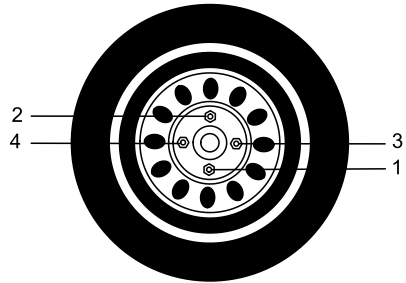
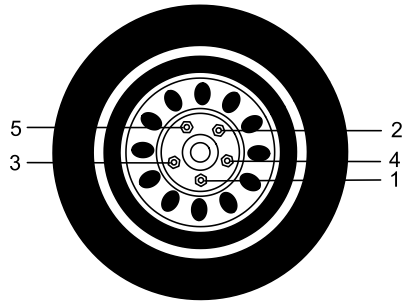

Fig. 4
Fig. 5
- Place the impact socket onto the lower wheel nut (1) (Fig. 4 & 5).
⚠ WARNING: Tighten the wheel nuts in the sequence outlined in Fig. 4 for 4 stud wheel patterns and Fig. 5 for 5 stud wheel patterns. Following this sequence is extremely important to avoid potential distortion of the brake rotors or drums.